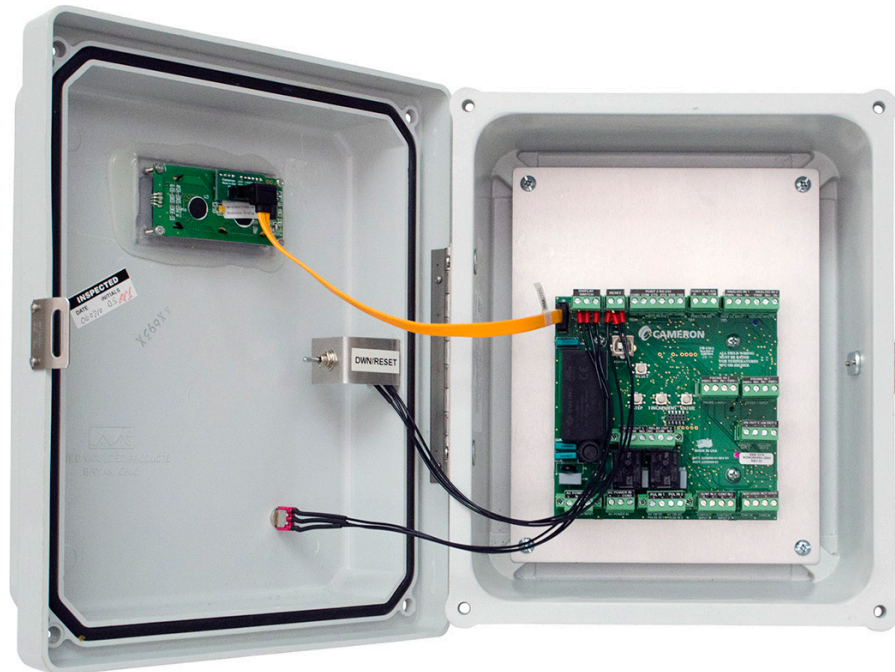

Figure E.6—TA-1000 weatherproof enclosure showing completed retrofit
13. Connect the SATA cable for the new display to the J2 connector on the circuit board (Figure E.6, Page E-4).